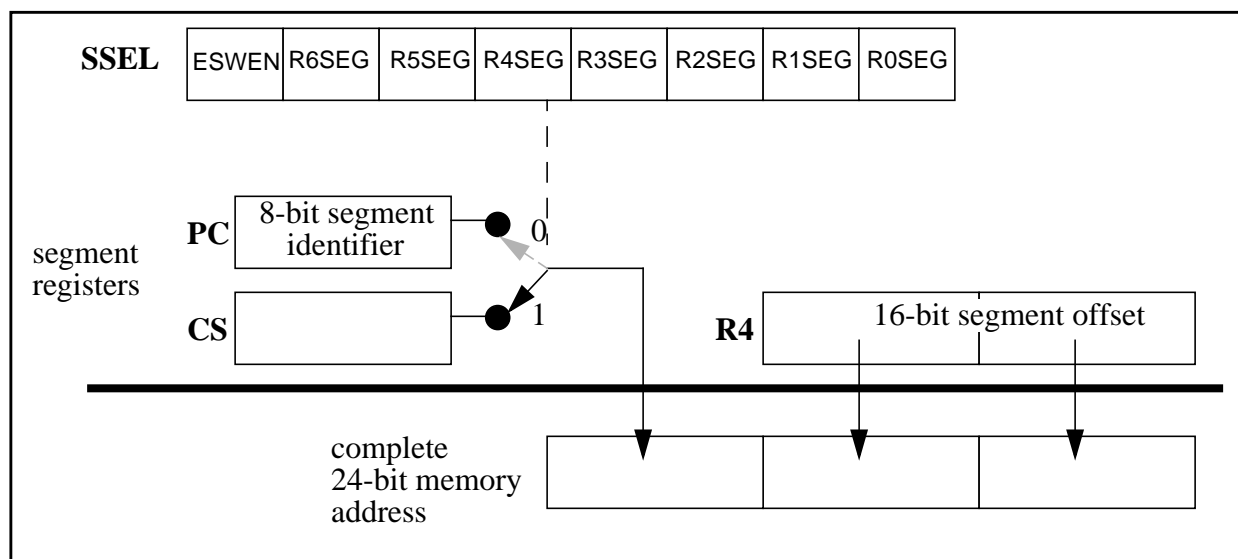

Figure 3.12 MOVC addressing in code memory
A special instruction, MOVC, is defined in the XA for accessing constant data (e.g. lookup tables, string constants etc.) stored in code memory. There is a standard form of MOVC that reflects the native XA architecture, and there are two variations that reflect 80C51 compatibility; see Chapter 9 for details of 80C51 compatibility. The standard form of MOVC uses a 16-bit register value as a pointer, appended to either the top 8 bits of the Program Counter (PC) or the Code Segment register (CS) to form a 24-bit address, as shown in Figure 3.12. The source for the upper 8 address bits is determined by the setting of the segment selection bit (0 = PC and 1 = CS) in the SSEL register that corresponds to the operand register.